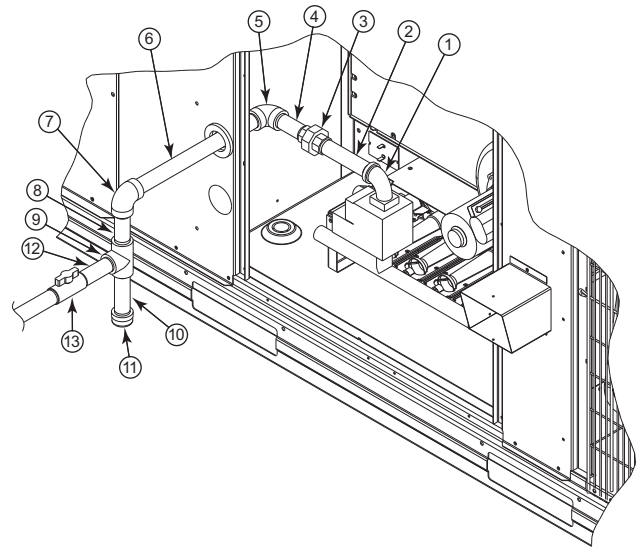

Fig. 27 — Gas Supply Line Piping
For typical 3/4-in. NPT field supplied fittings required for NON Thru-Base gas supply starting from the unit gas valve, omit items 14 and 15 from Table 7 and pipe gas supply into Tee. See Fig. 27.